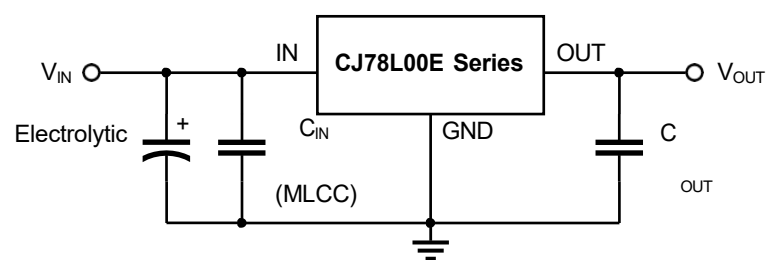

Figure 9-4. Electrolytic capacitor is used at IN
3. For the application circuit using the low ESR multilayer ceramic capacitor (MLCC) type input capacitor, the LC resonant voltage spike caused by hot plugging or power transmission line inductance can be suppressed by using RC suppression circuit for parallel connection of the input capacitor. A very simple method is to parallel a suitable electrolytic capacitor to the input capacitor. As shown in Figure 9-4. For most $100\mu\text{F}/25\text{V}$ electrolytic capacitor has an ESR of about 0.2Ω at 100kHz . This can completely suppress the overshoot phenomenon of the input and minimize the possibility of IC damage due to input voltage spikes.